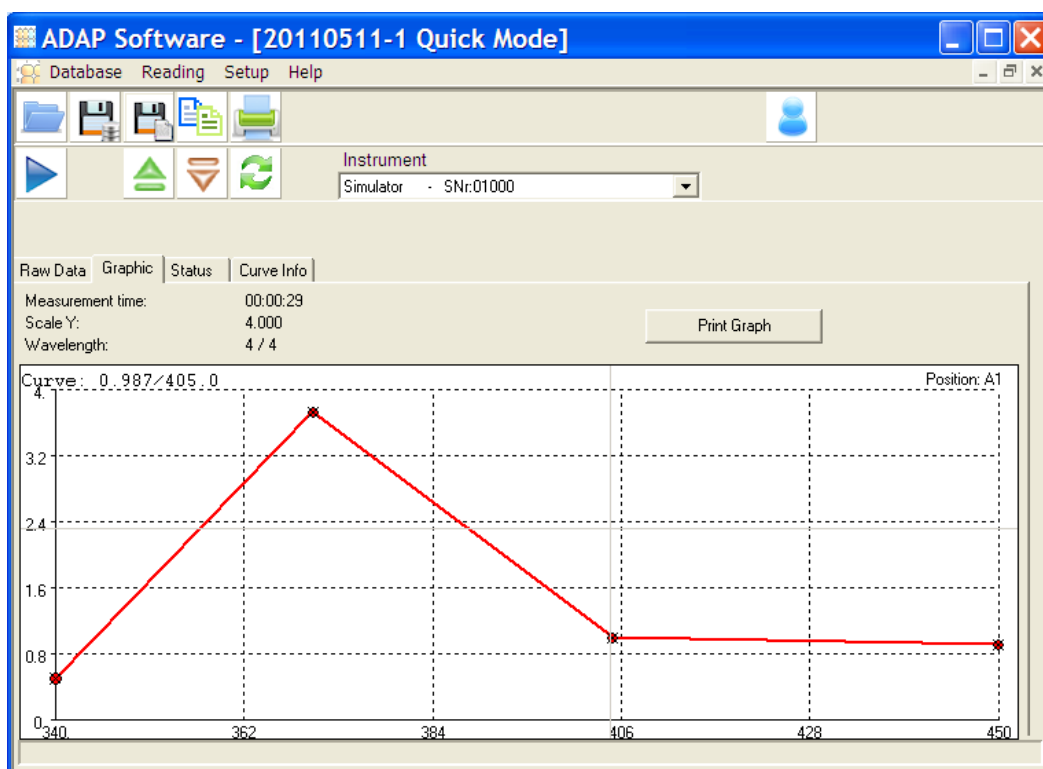

Figure 7-11: Multiwavelength Graph for a single sample
2. Choose *Zoom Graph* from the menu that appears. Graphic displays the detailed multiwavelength graph for the selected sample (Figure 7-11).